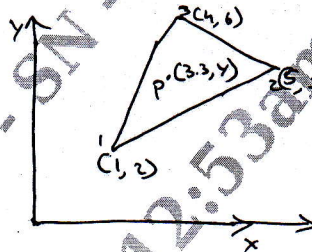

Fig.Q5(b)
b. The nodal co-ordinates of a triangular element are shown in Fig.Q5(b). The X-coordinate of point P is 3.3 and shape function  $N_1 = 0.3$ . Determine  $N_2, N_3$  and Y – coordinate of point P.